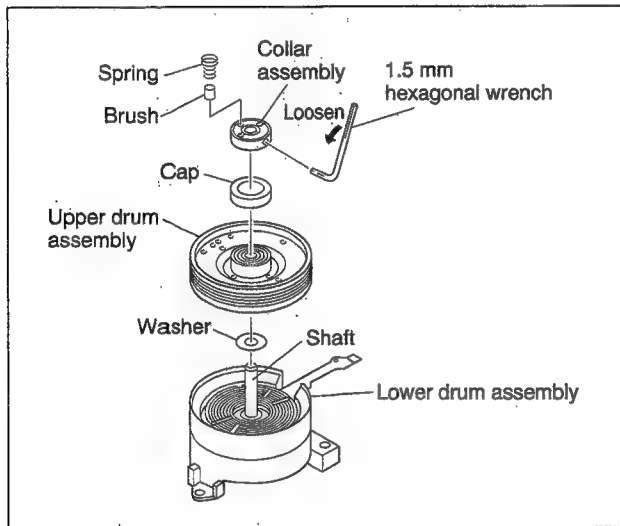

Fig. 2-2-39 Upper drum assembly-1
- (2) Install a new washer and upper drum assembly on the drum shaft. (See Fig.2-2-39)